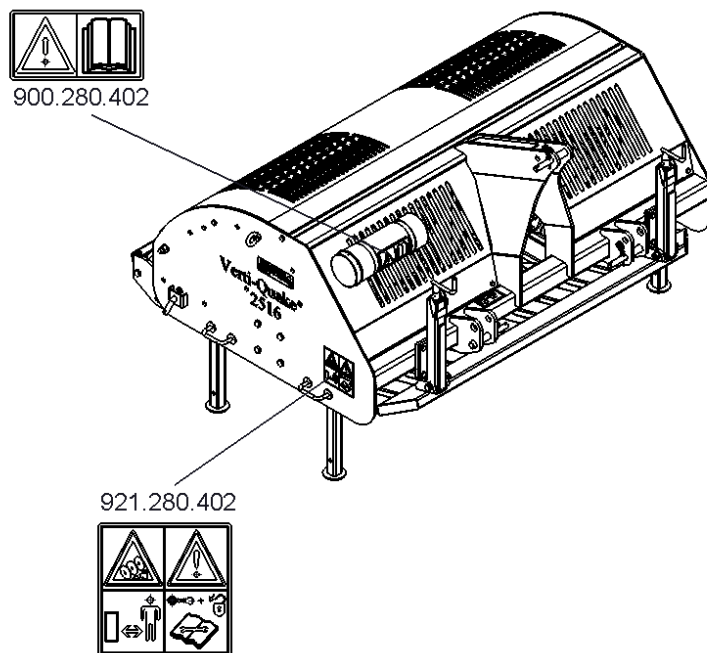

Fig. 5
On both sides of the Verti-Quake®, decals (Fig. 5) are applied to the sideboard showing these warnings. Make sure these safety decals are always clearly visible and legible. Replace them if they are damaged.
- (7) Placement of safety decals. (Fig 5.)